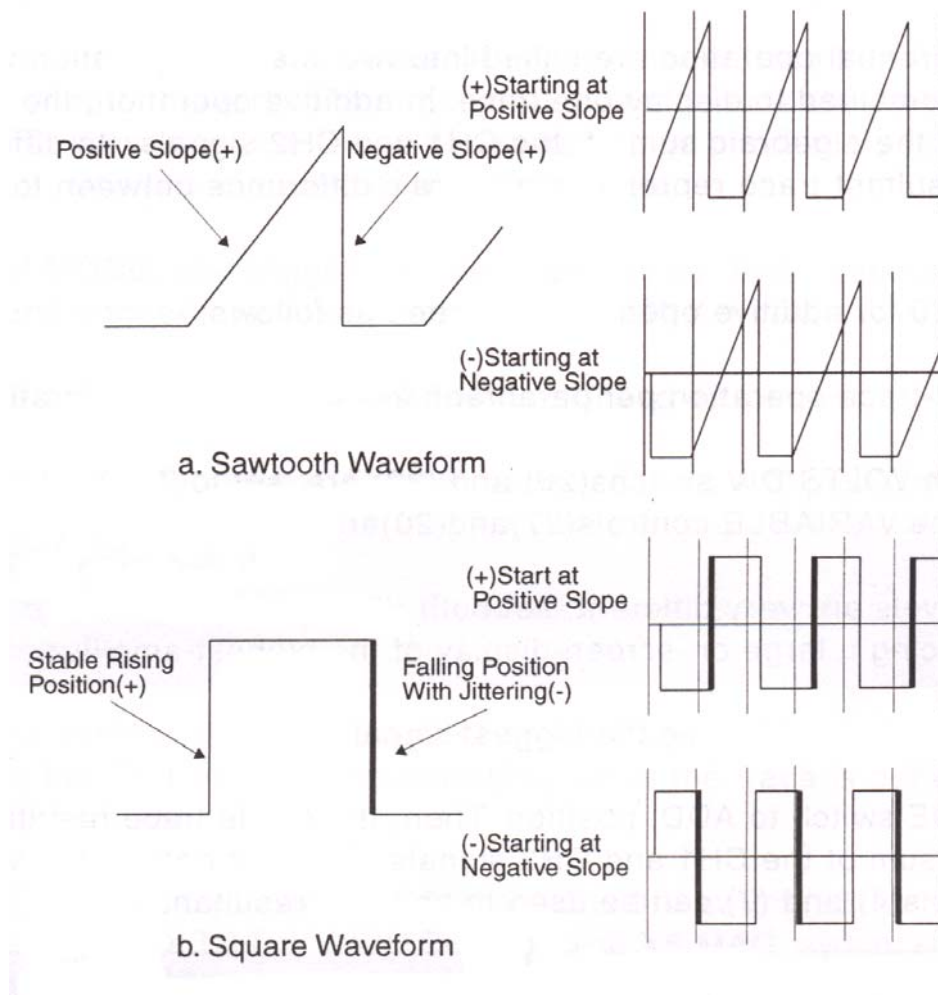

Fig. 2-4: Trigger-Slope Selection
The SLOPE switch determines whether the sweep will on a positive-going or negative-going transition of the trigger signal (See fig. 2-4). Always select the steepest and most stable slope or edge. For example, small changes in the amplitude of the sawtooth shown in Figure 2-4 a will cause jittering if the timebase is triggered on the positive (ramp) slope, but have no effect if triggering occurs on the negative slope (a fast-fall edge).
The LEVEL control determines the point on the selected slope at which the main (A) timebase will be triggered. The effect of the LEVEL control on the displayed trace is shown in figure 2-4 c. The "-", "0", and "+" panel-markings for this control refer to the waveform's zero crossing and points more positive (+) and more negative (-) than this. If the trigger slope is very steep, as with square waves or digital pulses, there will be no apparent change in the displayed trace until the LEVEL control is rotated past the most positive or most negative trigger point, whereupon the display will free run (AUTO Sweep mode) or disappear completely (NORM sweep mode). Try to trigger at the mid point of slow-rise waveforms (such as sine and triangular waveforms), since these are usually the cleanest spots on such waveforms.